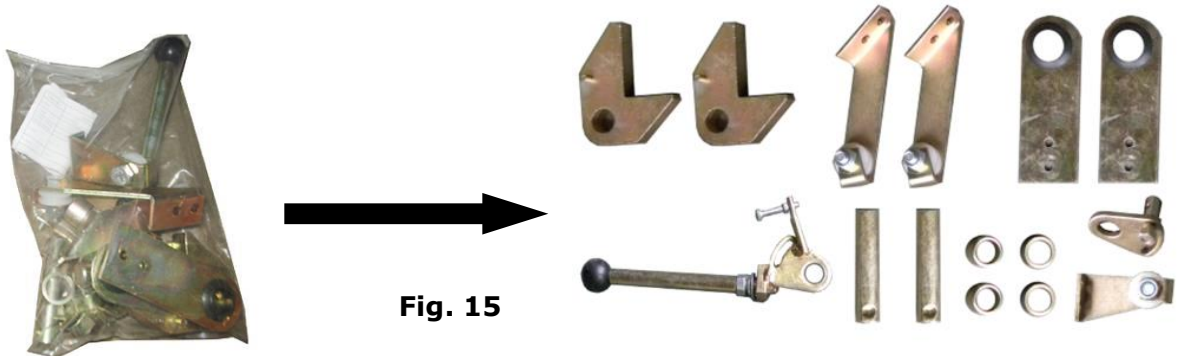

Fig. 15
7. Check the parts of the parts bag 2 according to parts bag list (See Fig. 15).